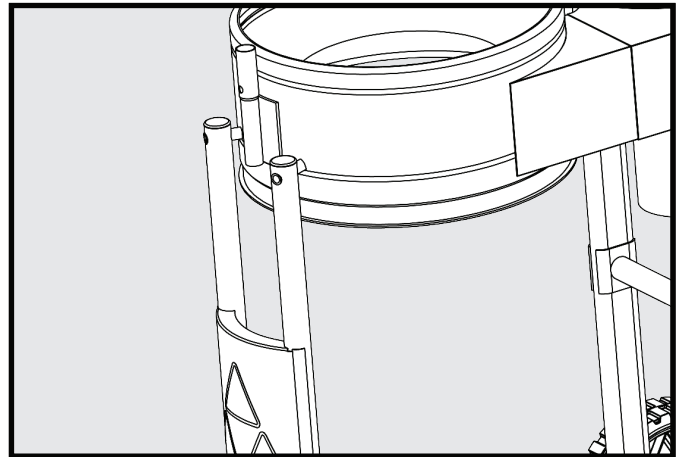

FIGURE 7
4. Align holes on front support assembly to blower housing assembly (Fig 7).